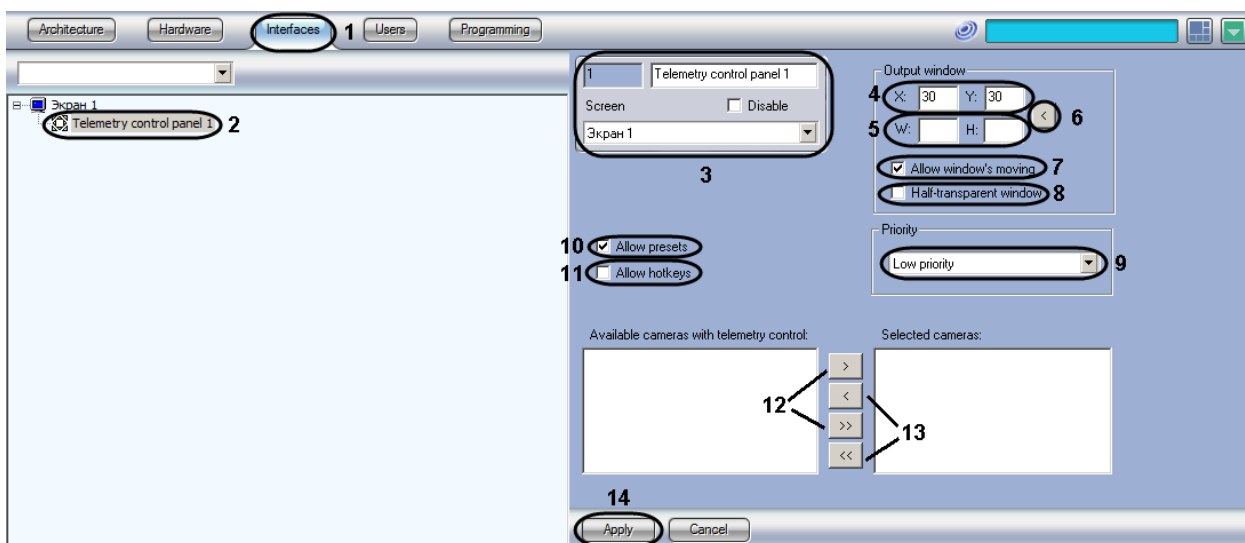

Figure 3.4-10 The Telemetry panel configuration
1. Go to the **Interfaces** tab in the **System settings** dialog box (Figure 3.4-10, 1).
2. Create the **Telemetry panel** object under the **Monitor** object or select the relevant object on the **Interfaces** tab in the **System settings** dialog box (Figure 3.4-10, 2).
3. Enter the ID, the name of the **Telemetry card** object and select the **Screen** object under which the **Telemetry card** object is created (Figure 3.4-10, 3).
4. Change the **X** and **Y** coordinates of the telemetry panel position on the screen in the relevant fields. The **X** and **Y** values correspond to the screen coordinates of the top left corner of the telemetry panel, and are expressed as a percentage of the horizontal and vertical screen sizes correspondingly (Figure 3.4-10, 4).
5. Enter the measures of the **Telemetry panel** interface object: the **W** (window width) and **H** (window height). Measures are expressed as a percentage of the horizontal and vertical screen sizes correspondingly (Figure 3.4-10, 5).
Note. The < button (Figure 3.4-10, 6) is used for automatic input of the current object coordinates specified by the user.
6. By default, the telemetry panel can be dragged over the screen. To fix the telemetry panel position, set the **Allow window's displacement** checkbox unchecked (Figure 3.4-10, 7).
7. By default, the telemetry panel is opaque. To display interface objects on the same screen with the telemetry panel, set the **Transparent** checkbox (Figure 3.4-10, 8).
8. If it is necessary to change the PTZ control priority via the **Telemetry panel**, select the relevant item from the **Priority** list (Figure 3.4-10, 9).
9. By default, the Operator is allowed to save the presets of PTZ device (presets of the camera position). To save presets, use the digital buttons on the **Presets** panel. To forbid the Operator to save the presets, set the **Allow set presets** checkbox unchecked (Figure 3.4-10, 10).
10. Set the **Allow hot key** checkbox if it is necessary to control PTZ device via the keyboard (Figure 3.4-10, 11).
in turn, if you click the one-arrow button, or move all cameras, if you click the two-arrow button (Figure 3.4-10, 12).
12. Move the camera names from the **Selected cameras** list to the **Available cameras with telemetry control** list. These cameras will not be controlled by the **Telemetry panel** object. To move the selected cameras in turn, click the one-arrow button; to move all cameras, click the two-arrow button (Figure 3.4-10, 13).
13. To save the changes click **Apply** (Figure 3.4-10, 14).